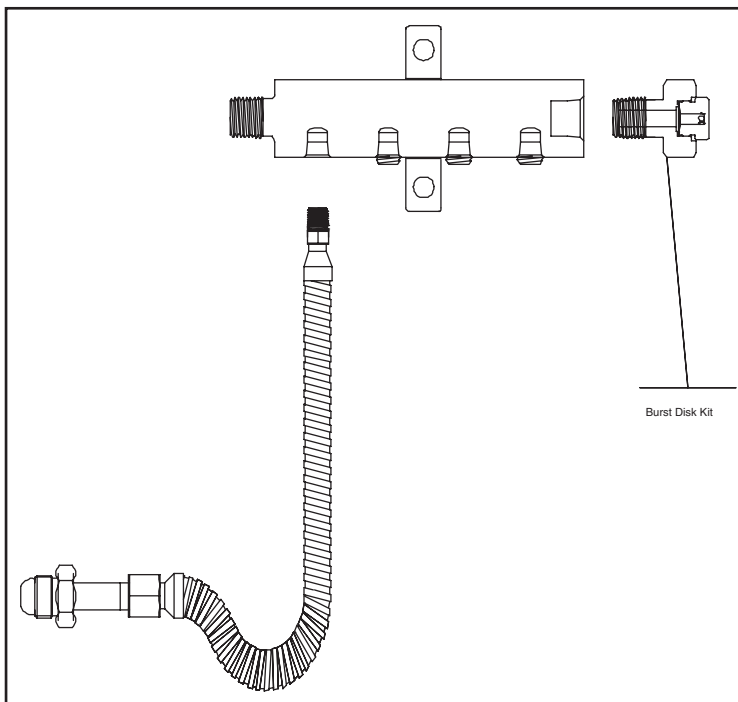

Figure 5 - Gas Manifold
5. Tape the ½" MPT thread on the burst disk kit illustrated in Figure 5.
12. Install the pigtail into the MicroManifold ¼" FPT port as illustrated in Figure 5.
7. Tape the ½" MPT thread on the burst disk kit illustrated in Figure 5.
17. Install the pigtail into the MicroManifold ¼" FPT port as illustrated in Figure 5.